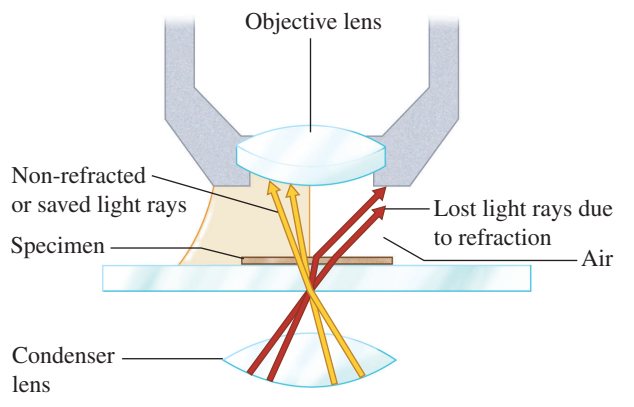

Figure 1.4 Immersion oil, having the same refractive index as glass, prevents light loss due to refraction.
lost, and as a result the numerical aperture is diminished (figure 1.4). The greater the loss of refracted light, the lower the numerical aperture. The final result is that the resolving power is greatly reduced.
**Oil Immersion Techniques** The oil immersion lens derives its name from the fact that a special mineral oil is interposed between the specimen and the 100× objective lens. As stated previously, this reduces light refraction and maximizes the numerical aperture to improve the resolution. The use of oil in this way enhances the resolving power of the microscope. Figure 1.4 reveals this phenomenon.